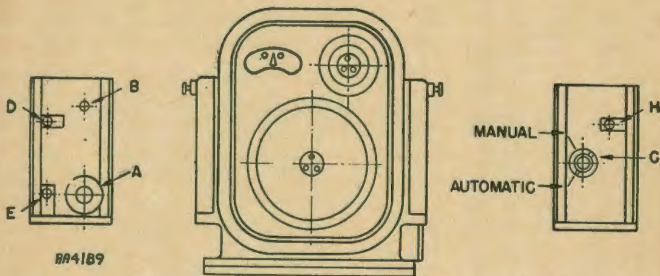

FIGURE 14.—Indicator regulator.
(A) (fig. 14) until mechanical (outer) pointer reads azimuth given orally by GC; checks lagmeter to see that it is in ZERO position; if necessary, removes cover cap under sliding cover and turns slotted shaft (B) (fig. 14) until lagmeter is zeroed (a small screw cover must be removed before this adjustment can be made); checks collimation of azimuth direct-fire sight.
2 elevates gun until G calls, "Hold"; raises sliding cover on left side of elevation indicator; turns toothed wheel (A) (fig. 14) until mechanical (outer) pointer reads 800 mils elevation; checks lagmeter to see that it is in the ZERO position—if necessary, removes cover cap under sliding cover (on left side of indicator regulator) and turns slotted shaft (B) (fig. 14) until lagmeter is zeroed (a small screw cover must be removed before this adjustment can be made); checks collimation of elevation direct-fire sight.
- 2 raises sliding cover on right side of elevation indicator; after power has been turned on, *slowly* turns selector switch to MANUAL; operates the gun manually until value of quadrant elevation received orally from GC is indicated by mechanical (outer) pointer of the elevation indicator; raises sliding cover on left side of elevation indicator and turns slotted shaft (E) (fig. 14) until electrical (inner) pointer matches mechanical (outer) pointer; sets selector switch at AUTOMATIC; directs 7 to turn on motor switch at gun junction box.
- 7 raises sliding cover on right side of azimuth indicator; after power has been turned on, *slowly* turns selector switch to MANUAL; operates the gun manually until value of angle of train received orally from GC is indicated by mechanical (outer) pointer of azimuth indicator; raises sliding cover on left side of azimuth indicator and turns slotted shaft (E) (fig. 14) until electrical (inner) pointer matches mechanical (outer) pointer; sets selector switch at AUTOMATIC; turns on motor switch at gun junction box when directed by 2.
- 2 if lagmeter is not at zero position, turns slotted shaft (D) (fig. 14) until lagmeter is at zero position; disengages the handwheel by pushing it toward the muzzle and depresses the transfer valve plunger.
- 7 if, after power is turned on at gun junction box lagmeter is not at zero position, turns slotted shaft (D) (fig. 14) until lagmeter is at zero position; disengages the handwheel by pushing it toward the muzzle, and depresses the transfer valve plunger.